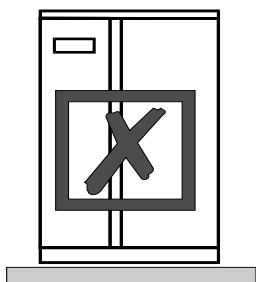

Figure 8
4.Keep the UPS far away from heat emitting sources. (Fig.8)